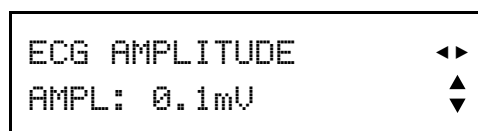
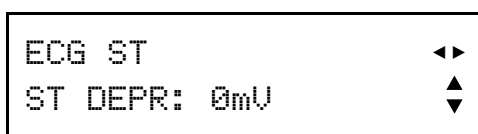

**Figure 13- ECG RATE**
Figure 17- ECG ADVANCED: ST SEGMENT
Press the ECG(1) button to change the LCD display to that of **Figure 13**, the ECG Rate Menu.
While viewing the display of **Figure 13**, pressing the RIGHT (▶) arrow button once will change the display to that of **Figure 14**, the ECG Amplitude Menu.
Pressing the RIGHT (▶) arrow button again will restore the LCD display to the initial menu screen of **Figure 13**.
Pressing the ADV(7) button while viewing the ECG menu will change the screen to that of **Figure 17**, the ST Segment Menu. To return to the Normal ECG menu, press the ECG(1) button and the screen will return to that of **Figure 13**.
If an ST elevation or depression is selected on the menu of **Figure 17**, pressing ENTER overrides the current ECG RATE setting and automatically changes the rate to 80 BPM. This rate override occurs even if ECG ST is set to 0 mV. To restore the original rate, press the ECG button to view the rate, then press ENTER. This will cancel the simulation of ST elevation or depression and return the ECG to NSR.
Pressing the RIGHT (▶) arrow button will restore the LCD display to the initial menu screen of **Figure 17**.